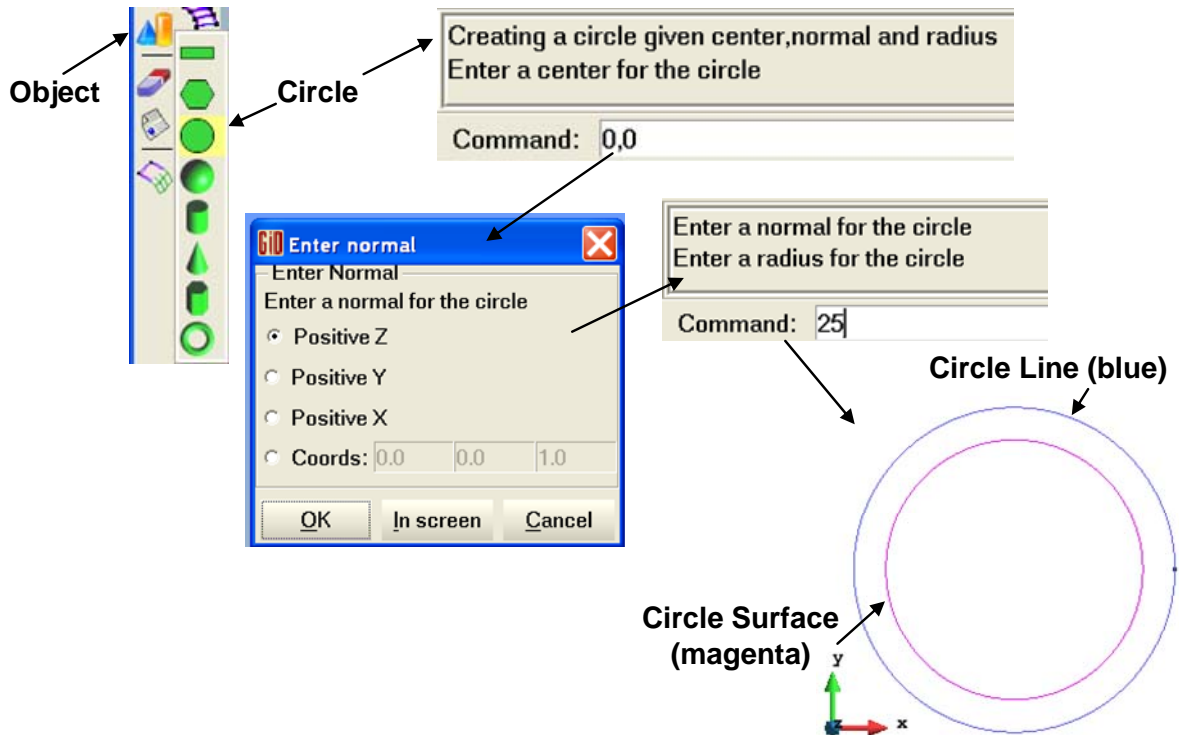

Figure C2.3. Icon sequence for creating a circle.
To create the circle using the icons bar, Click , the object icon drop menu will appear. Then click the circle icon . In the dialog box, enter the center for the circle (0,0) and press Enter. Then, enter a normal for the circle. In our case, choose **Positive Z**. Finally, enter the radius for the circle in the dialog box (25) and press Enter to finish the circle generation. This sequence is illustrated in Fig C2.3.